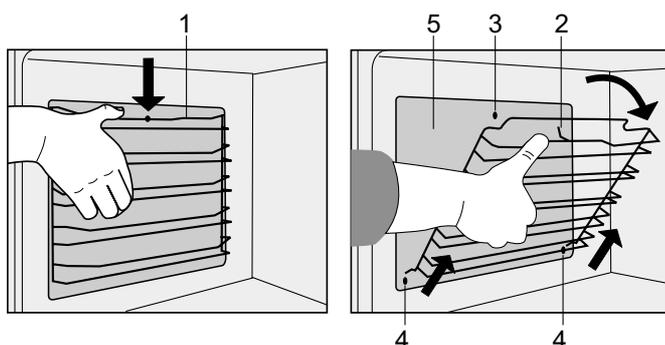

Fig. 20
- press down the top bar of guides **1** in order to release catch **2** from hole **3** (fig. 20),